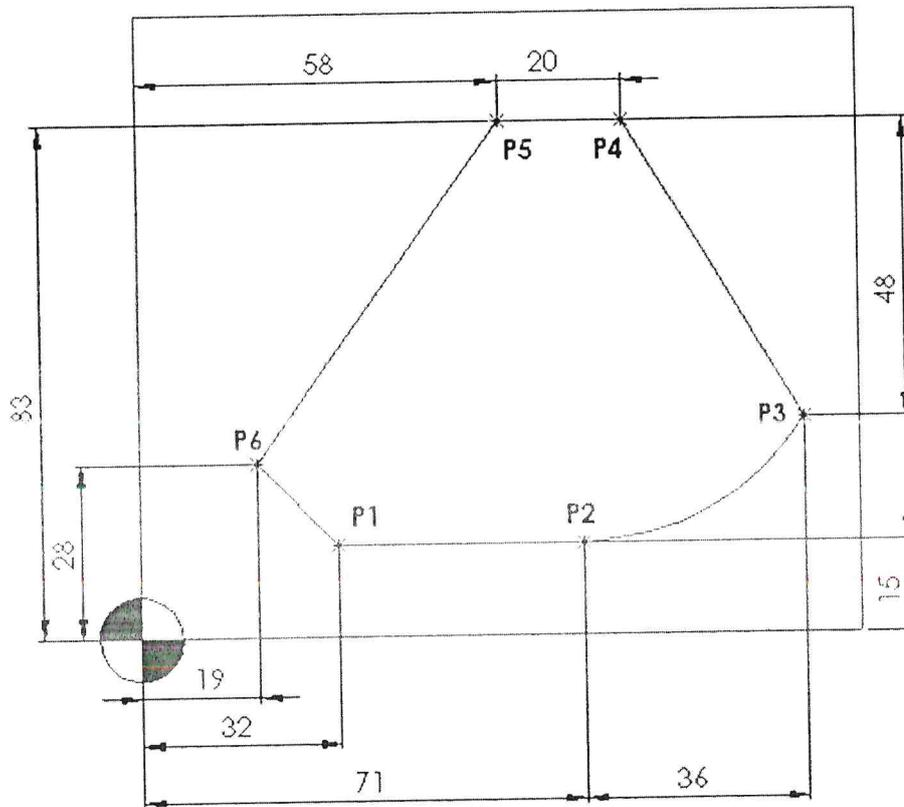

Figure 1
- a) Refer to the **Figure 1**, write absolute coordinate systems. Define all X-Y axis value with creating a table for points P1-P2-P3-P4-P5-P6-P1 coordinates of the closed profile in **absolute** coordinate systems.